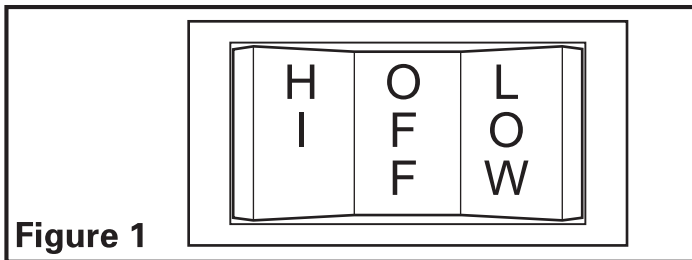

Figure 1
2. Plug cord into a properly grounded three-prong 120 V outlet and select the desired speed setting from the control switch located on the side of the fan (**Figure 1**).